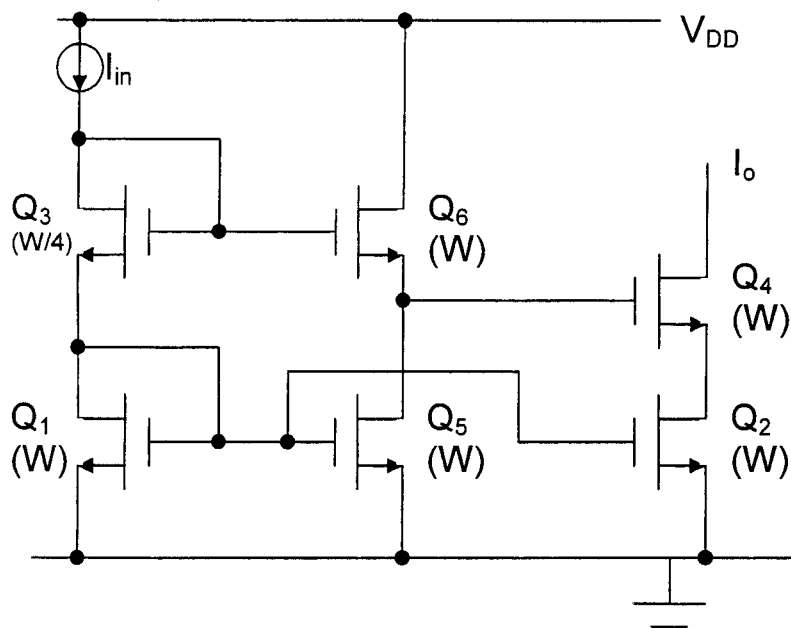

Figure 6.2
- (b) Give reasons why it is important for CMOS current mirrors to have a high output resistance and high output voltage swing. For the current mirror of Figure 6.2 derive this voltage swing in terms of device threshold voltage  $V_T$ , clearly stating any assumptions you make.